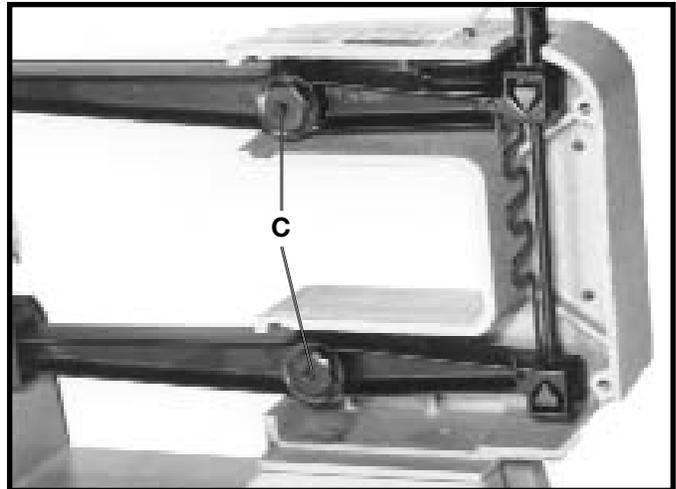

Fig. 27
4. Remove the two pivot bolts and wavy washers (C) Fig. 27.